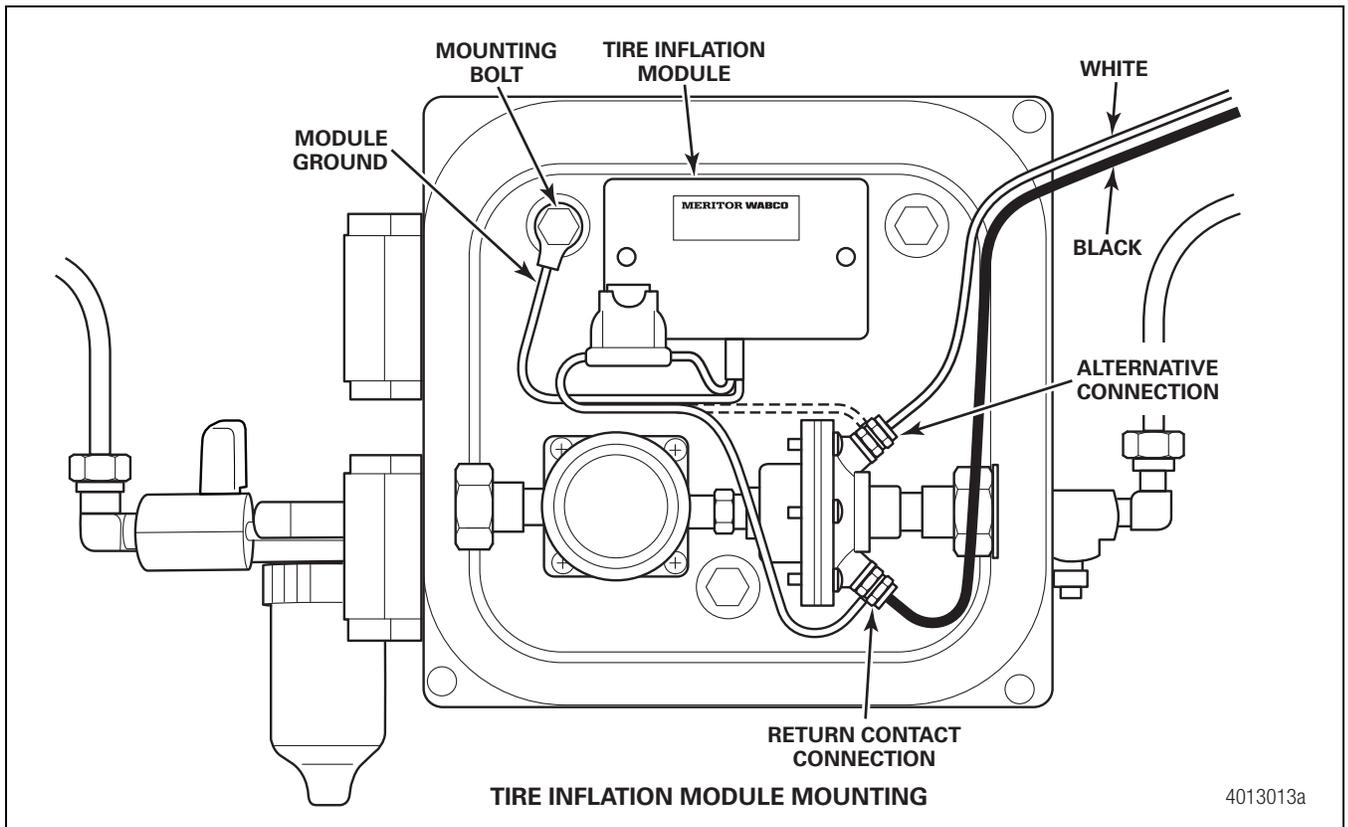

Figure 5
2. Remove the plastic film on the double-sided tape ensuring no dirt or debris comes in contact with the exposed tape adhesive. Firmly place the module tape side down within the MTIS control box. Maintain access to the mounting fasteners of the control box as shown in Figure 5.
3. Remove the upper left MTIS control box mounting bolt to attach the ring terminal lead to the inside of the box. Place the ring terminal within the mounting bolt and reattach the bolt to the assembly. This provides electrical ground to the module. Figure 5.